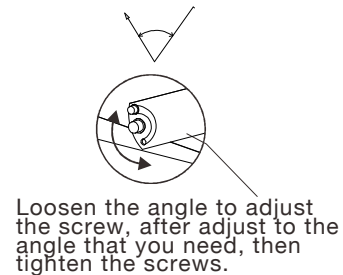

Figure 14
STEP 3: Connect the fixture to the bracket and tighten the screws; connect the wires properly (FIGURE 14)
NOTICE: Adjustable angle is 0~±194° (FIGURE 14)